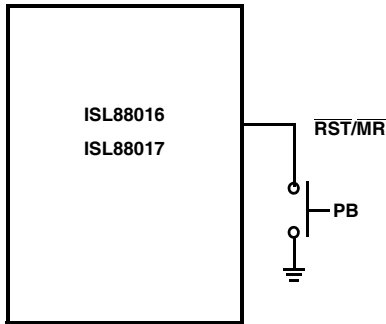

FIGURE 3. CONNECTING A MANUAL RESET PUSH-BUTTON
The manual reset input (MR) allows the user to trigger a reset by using a push-button switch. The MR input is an active low debounced input. By connecting a push-button directly from MR to ground, the designer adds manual system reset capability (see Figure 3). Reset is asserted if the MR pin is pulled low to less than 100mV for 10μs or longer while the push-button is closed. After MR is released, the reset outputs remain asserted for  $t_{POR}$  (200ms) and then released.